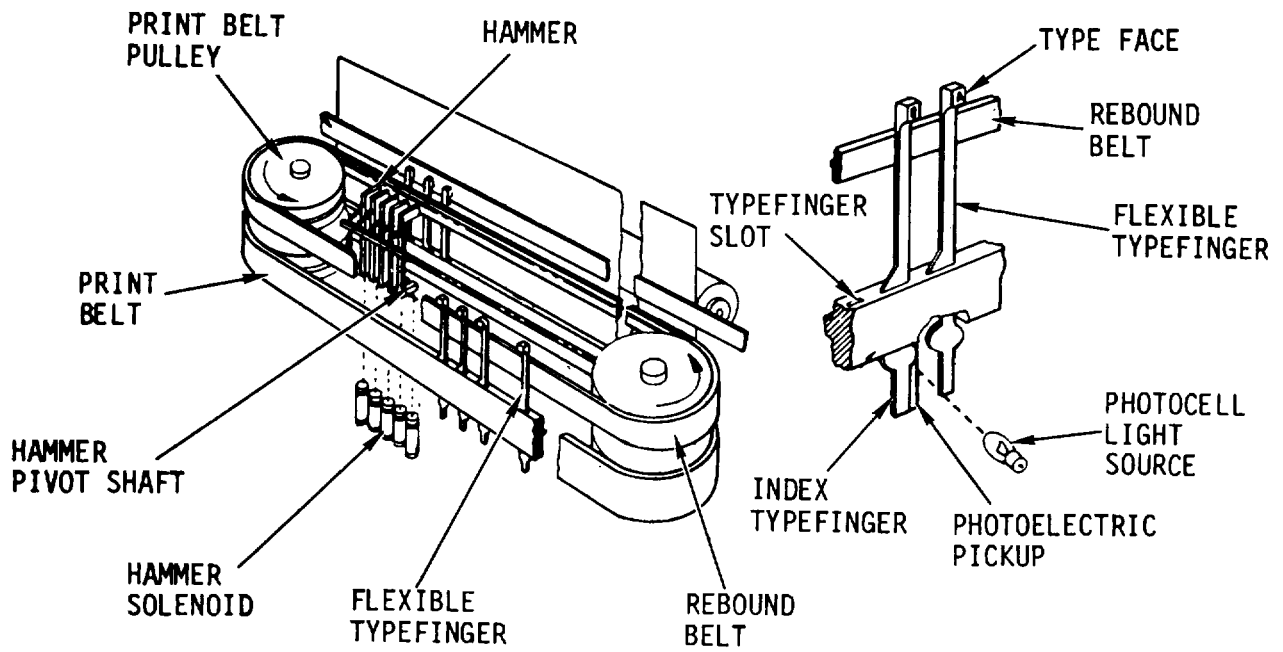

Figure 2-4. Hammerbank Assembly
c. Hammer and Print Belt Assembly. The line printer uses a flexible print belt (fig. 2-4) to carry the type fingers used for printing. The fingers are mounted in vertical slots in the belt. Each finger has a type character or symbol on the upper end. There are 3 sets of 64 characters in the print belt. Each set of characters has one special index finger which contains a marker at the bottom end. The position of each character in the print belt is relative to this special wide index finger which is detected by a photoelectric light beam. This wide index finger triggers an electronic counting circuit which counts the finger movement of the belt. As the fingers in the belt move past each possible print column position, the column position is compared with the stored input data to determine when the finger is in the correct position and the appropriate hammer is fired. There is a hammer in each print position, for a total of 132 hammers.